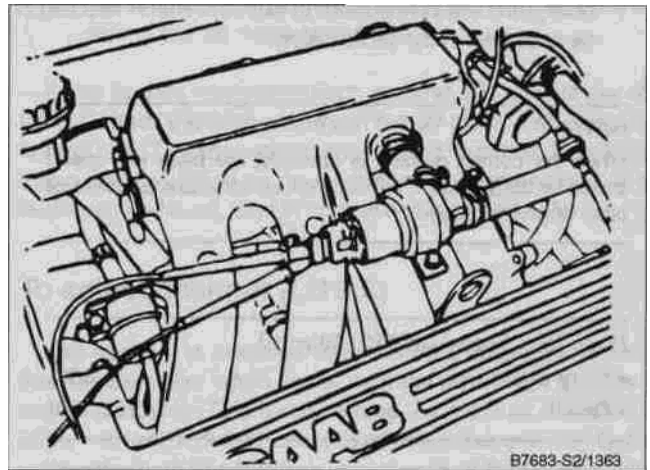

Fig. 33. Meter leads connected to idle control valve terminals 2 and 3 (valve terminal 4 and 5).
4. Working from the rear of the AIC valve's harness connector, connect the dwell meter to terminals 2 and 3. See Fig. 33. Connect the tachometer.